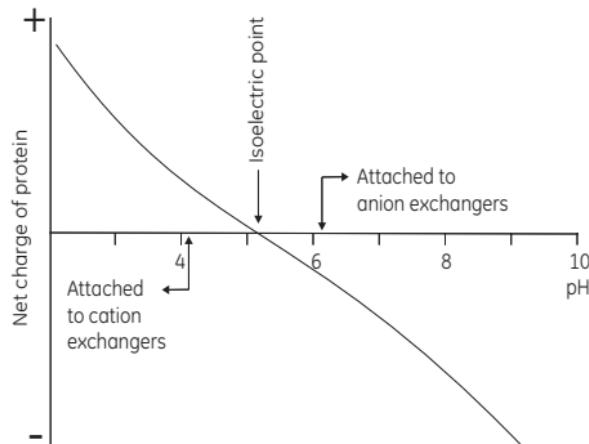

Fig 3. The net charge of a protein as a function of pH.
Ion exchange chromatography is based on adsorption and reversible binding of charged sample molecules to oppositely charged groups attached to an insoluble matrix. The pH value at which a biomolecule carries no net charge is called the isoelectric point (pl). When exposed to a pH below its pl, the biomolecule will carry a positive charge and will bind to a cation exchanger (SP). At pH's above its pl the protein will carry a negative charge and will bind to an anion exchanger (Q). If the sample components are most stable below their pl's, a cation exchanger should be used. If they are most stable above their pl's, an anion exchanger is used. If stability is high over a wide pH range on both sides of pl, either type of ion exchanger can be used, see Figure 3.